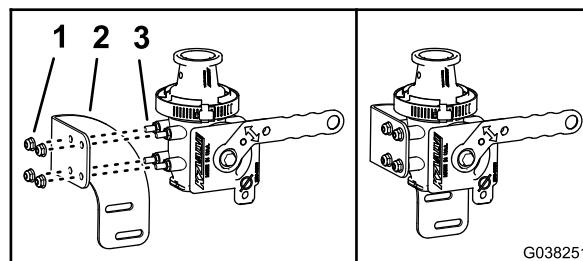

Figure 59
- Align the hose in the eductor-shutoff bracket with the studs of the eductor-shutoff valve as shown in Figure 59.
- Assemble the bracket to the valve (Figure 59) with the 4 flange locknuts (1/4 inch)